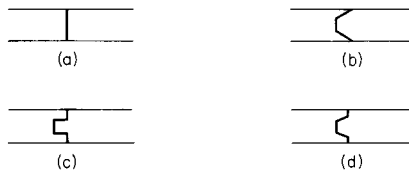

Fig. 28
95. Fig. 28 shows some methods of making a joint by using an adhesive. Which joint is unsatisfactory?